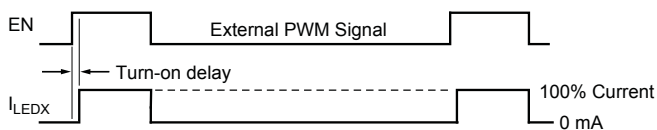

Figure 2. Timing diagram of external PWM signal and LED current
- **PWM dimming using the EN pin.** PWM dimming is performed by applying an external PWM signal on the EN pin. When the EN pin is pulled high, the A8511 turns on and all enabled LEDs sink 100% current. The sequence is shown in figure 2. For optimal accuracy, the external PWM signal should be in the range 100 to 300 Hz. The slight delay between PWM signal and the LED current causes an error. To compensate for the error, a small turn-on delay should be added to the PWM signal as shown on page 10 of the Performance Characteristics section. When EN is pulled low, the boost converter and LED sinks are turned off. The compensation (COMP) pin is floated, and critical internal circuits are kept active. If EN is pulled low for more than t_{PWML}, the device enters shutdown mode and clears all internal fault registers. As an example, for a 2 MHz clock, the maximum PWM low period while avoiding shutdown is 65 ms.